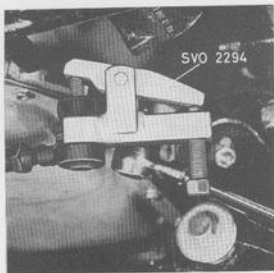

Fig. 6-64. Removing ball joint
If bent the steering rods and tie rod may not be straightened out but should be replaced. This also applies if they are damaged in any other way. The ball joints cannot be disassembled or adjusted so when worn or damaged they must be replaced. The ball joints of the tie rod can be replaced individually. When removing, first take off the split pins and crown nuts. Then place tool 2294 on the ball joints as shown in Fig. 6-64. Press in the tool well and make sure that the thread on the ball joint enters the recess in the tool. Screw in the bolt until the ball joint loosens. Then remove the locknut on the rod and unscrew the ball joint. From the beginning the new ball joint is screwed in the same number of turns and this
2. Disconnect the steering rod and tie rod ball joints from the relay arm with puller 2294 as shown in Fig. 6-64.
2. Disconnect the ball joint for the steering rods and tie rod from the relay arm with puller 2294 as shown in Fig. 6-64.